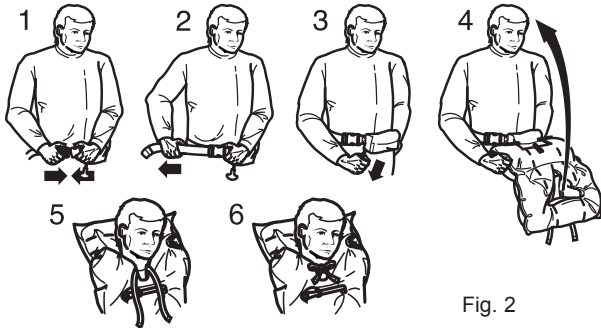

Fig. 2
- 2) Put the inflatable Pouch PFD on just like a standard waist belt pack, and fasten the front buckle. Adjust waist belt to a snug, comfortable fit, and secure the belt's loose end in the belt loop. Do not wear inflatable PFDs under clothing, as the inflation could be restricted, or you could be injured (Fig. 2, Steps 1 and 2).
Deployment and Use of the PFD (Fig. 2, Steps 3-6).